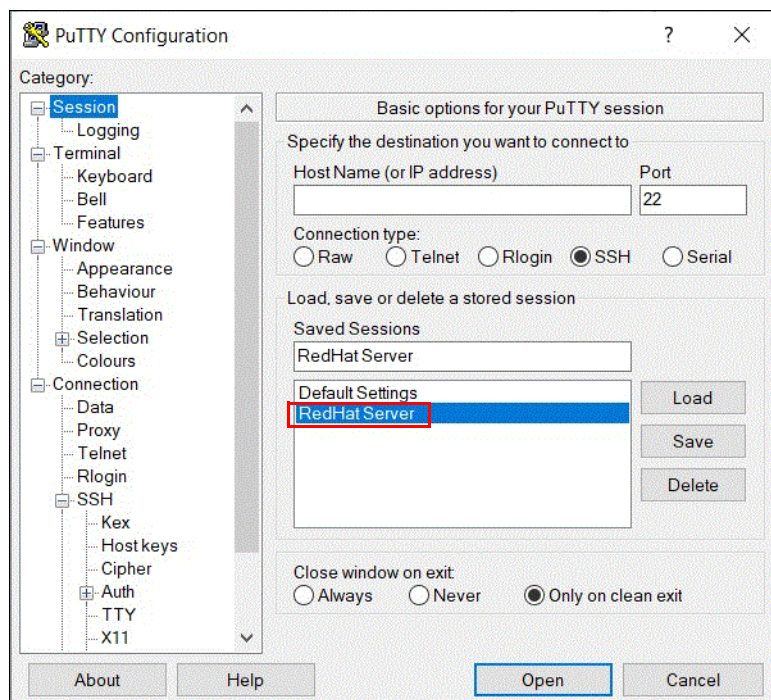

Figure B-13 Connecting to a system
10. Select the new session and click **Open** to connect to the IBM Spectrum Virtualize system, as shown in Figure B-13.